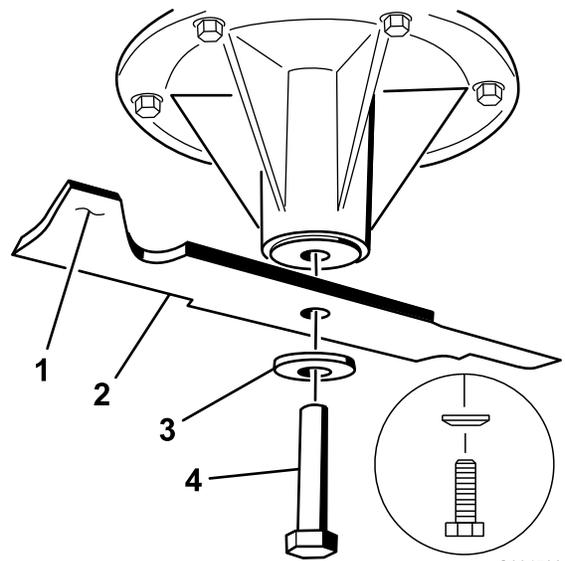

Figure 115
2. Remove the left and center blade bolt, curved washer, and blade from the spindle shaft (Figure 115).
3. Remove the right blade bolt (left threaded bolt), curved washer, and blade from the spindle shaft (Figure 115).
1. Install the left and center blades, curved washers, and blade bolts to the spindle shafts (Figure 115 and Figure 116).
Note: Install the curved-washer cone towards the bolt head (Figure 115).
2. Install the right blade, curved washer, and blade bolt (left-threaded bolt) to the spindle shaft (Figure 115 and Figure 116).